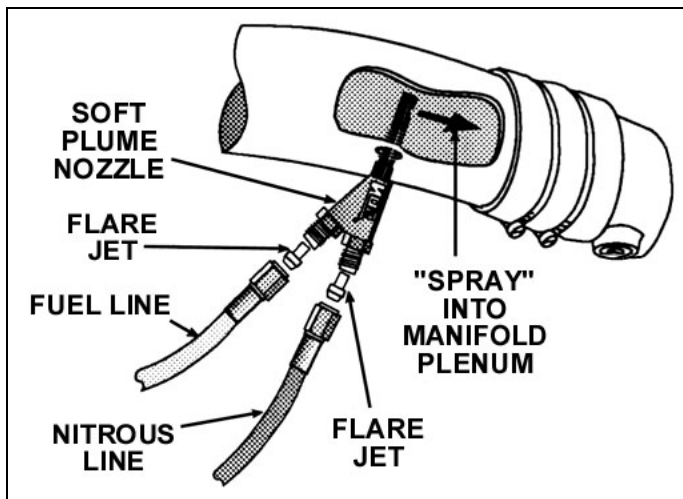

Figure 5 Soft Plume Nozzle Installation Cut-Away & Installation Photo
**NOTE:** The recommended mounting location for the Soft Plume nozzle is in the air inlet duct, between the throttle body and the mass airflow sensor (in applications where a mass airflow sensor is used). Install the nozzle (as shown in Figure 5) before the throttle body or any major turn in the air inlet duct. **See Figure 5.**
2. Install the Soft Plume Nozzle (22), taking into account the length of the nitrous and fuel supply hoses and the intended location of the solenoids. Take into account that the nozzle mounting bung (21) needs to be restrained during final installation, and accessibility of a tool is important. Make sure the nozzle and feed lines will not interfere with engine components or accessories and will not interfere with the hood when closed. The nozzle should not move from the perpendicular position in the air inlet duct due to strain induced by the nitrous and/or fuel supply hose.
- 3A. **Mounting Surface:** Drill a 7/16" hole perpendicular to the inlet duct centerline through the inlet duct. Insert the Soft Plume nozzle mounting bung (21) into the 7/16" hole with the head inside the duct. Use Loctite or a similar compound on the nozzle adapter threads and securely tighten the nozzle mounting bung nut (20) to the nozzle mounting bung (21). This hole should be drilled onto the bottom (towards the underside of the car) of the air intake tube.